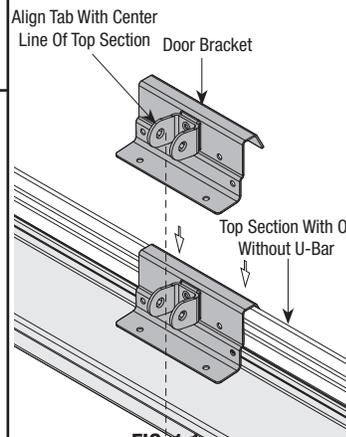
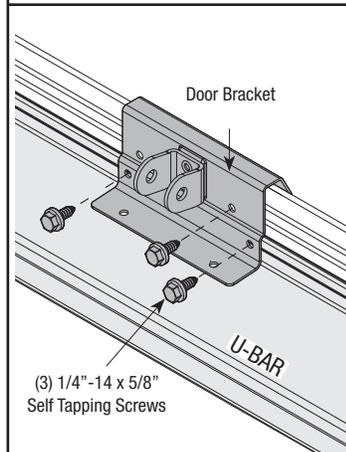
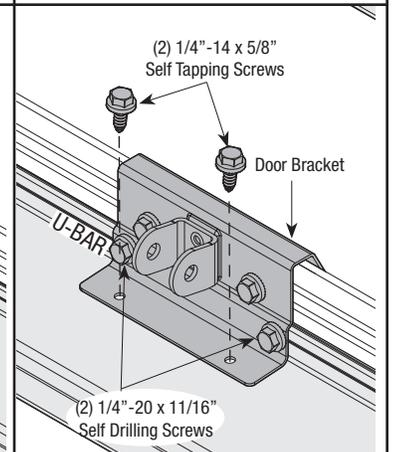

FIG. 1.1
FIG. 1.5
FIG. 1.6
Locate the center of the top section and seat the door bracket on male part of the top section. The door bracket must be centered and positioned on top section so it bridges the transition point of the section thickness, as shown in FIG. 1.1 and 1.2. Install (2) #12 x 1/2" phillips head screws on the opposite side of door bracket, as shown in FIG. 1.3. If initially supplied u-bar is on the door, clamp door bracket to u-bar, as shown in FIG. 1.4. First attach (3) 1/4" - 14 x 5/8" self-tapping screws to the door bracket, as shown in FIG. 1.5. Then attach (2) 1/4" - 14 x 5/8" self-tapping screws to the door bracket, as shown in FIG. 1.6. Remove vice clamps.
NOTE: If you have a 9100 door, you can use two of the 1/4" - 20 x 11/16" self-drilling screws used to attach the u-bar instead of the 1/4" - 14 x 5/8" self-tapping screws when attaching door bracket to u-bar, as shown in FIG. 1.6.